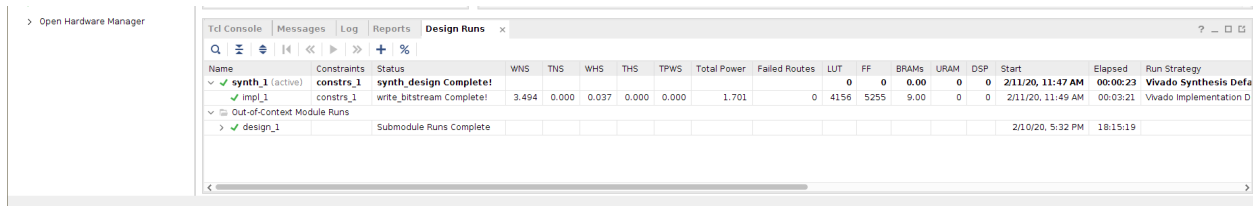
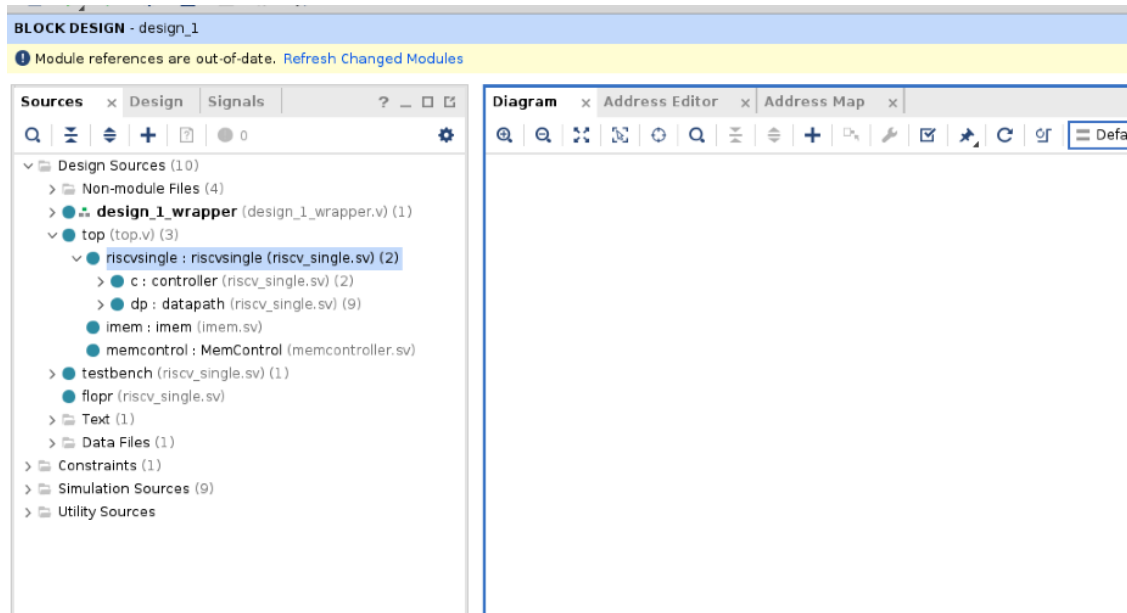
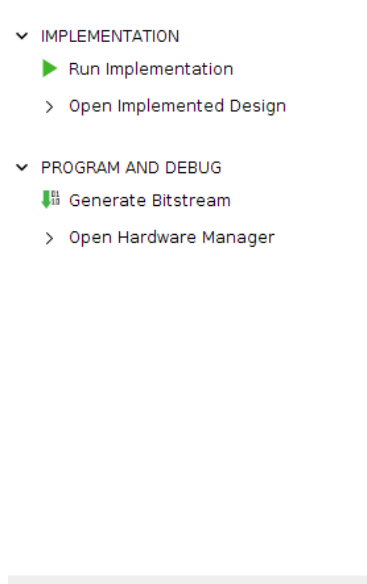

Figure 2: Bottom Panel with Tcl Console, Messages, etc.
Figure 4: Refresh Changed Modules Banner
Figure 5: Generate Bitstream under Program and Debug
4. Along the bottom of the screen, there is a collection of tabs for various status views. Select Tcl Console, which is where we will run our script (i.e., Figure 2).
All of these steps are automatic when you run the script and will chain into each other so long as no errors occur during any steps. **Again, this is why you do not want to start using the FPGA until your simulation works - errors here take longer to find and are often more complicated to solve than if you had found them in your simulations in ModelSim.** These steps might take some time to run (approximately 5 minutes) - you can view their progress in the Design Runs tab on Figure 2
If you run into errors or issues here, go to the Messages tab in Figure 2 where messages, warnings, and errors are stored and see what happened, or delve even deeper in the Log tab where the output from the toolchain is directly stored.
Anytime you make a change to the file and save it, a message will appear along the top of the screen that the Module References are Out-of-Date (i.e., Figure 4). Like what the script was doing, you've changed the module, but the other modules that connect to the RISC-V core haven't had a chance to refresh themselves and update their references. Clicking Refresh Changed Modules on that message will update the project index and refresh all references. You can then run the toolchain just like the script did by clicking Generate Bitstream on the bottom-left panel (i.e., Figure 5). A window will pop up letting you know that Synthesis is out-of-date and that will need to run first - answer Yes so all required steps will run first. Then, the Launch configuration window will open where you can set details about how the toolchain will run. Leave these at the defaults and click OK. Go to the Design Runs tab in Figure 2 to see each step's progress while waiting for them to complete (approximately 5 minutes).
6. Once Bitstream Generation is complete, a window will pop up asking what you would like to do next (i.e., Figure 5). Select Open Hardware Manager and click OK. If you accidentally close this window or select something else, you can easily get to the hardware manager using the Open Hardware Manager button below Generate Bitstream in Figure 5.
- Refresh Changed Modules using the button on the top banner (i.e., Figure 4).